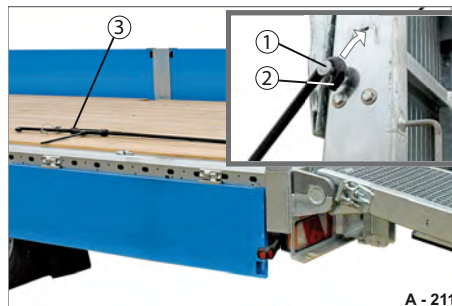

Fig. 47 Removing the securing tensioner
- ▶ Lift the securing tensioner (Fig. 47/2) from the gudgeon (Fig. 47/1) on the ramp and from the lashing ring on the loading platform.
- ▶ Set down the complete securing tensioner (Fig. 47/3) safely to avoid damage.